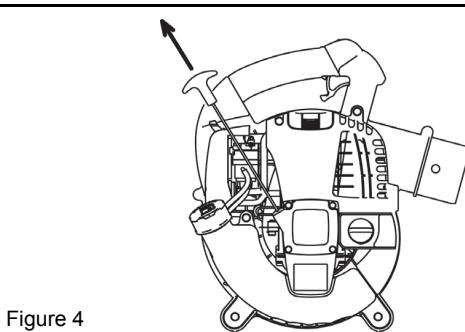

Figure 4
- Refill: After inspection if the oil is below the lower limit add oil through the same opening that the oil cap was removed. See Figure 4 on how to orient the engine to refill the oil.
- (2) You may need to refill oil approximately every 10 hours of use (every 10 refuellings).
- (3) If the oil changes in color or mixes with dirt, replace the oil. (For the interval and method of replacement, refer to P. 14)
- Pull out slowly the starter handle till a certain resistance is felt. Return the starter handle backward once from this position, then pull it out with force (Figure 4).